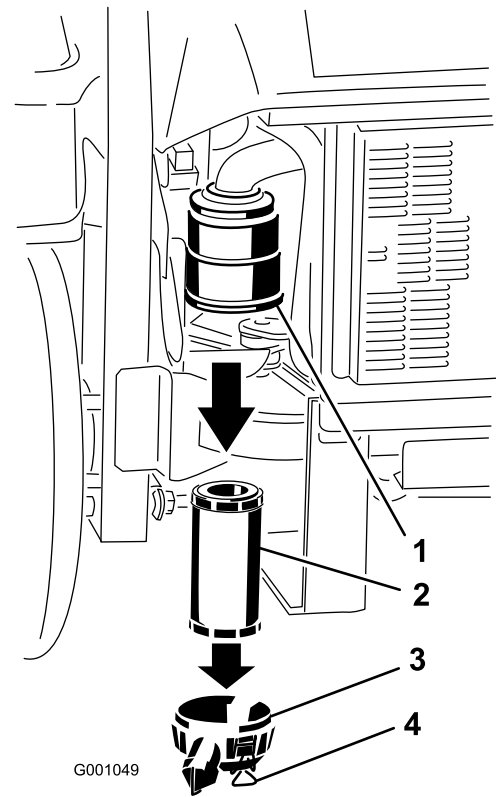

Figure 35
3. Release the latches on the air cleaner and pull the air-cleaner cover off the air-cleaner body (Figure 35).
5. Gently slide the filter out of the air-cleaner body (Figure 35). Avoid knocking the filter into the side of the body.